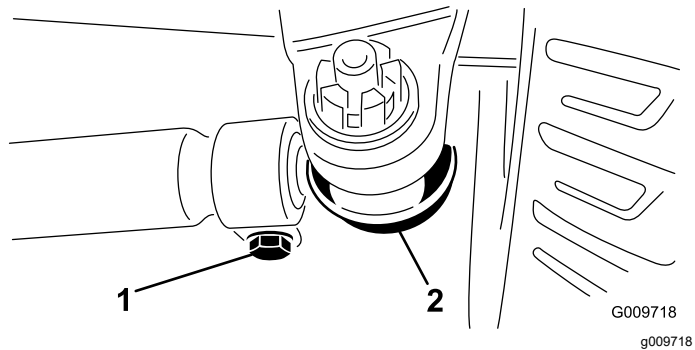

Figure 70
2. To adjust, remove the cotter pin and nut from either tie rod ball joint (Figure 70). Remove the tie-rod ball joint from the axle-case support.
3. Loosen the clamps at both ends of the tie rods (Figure 70).